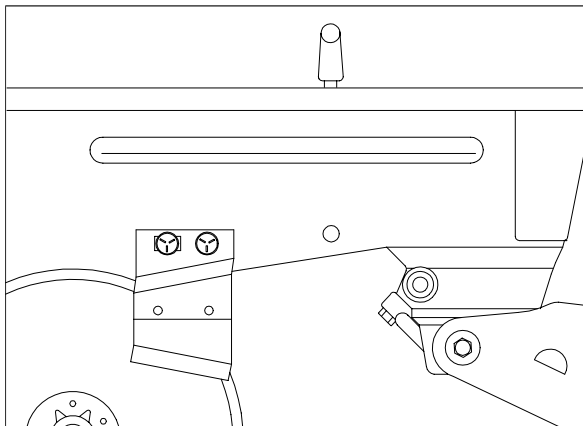

Figure 5
2. Remove gauge wheels and scrapers, see Figure 5. Take note of spacers located on the spindles to ensure the wheel is correctly remounted.